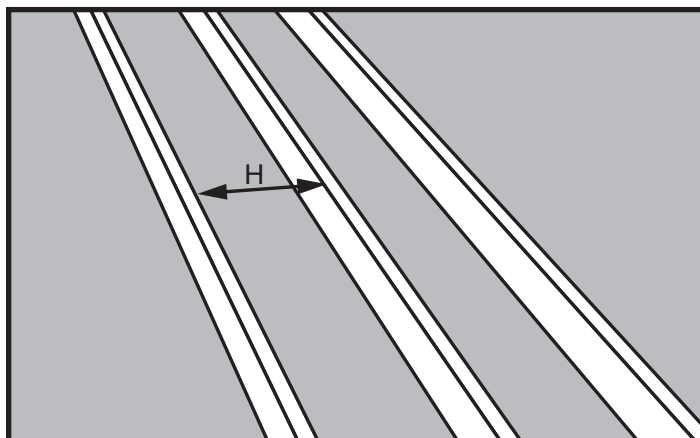

Figure 11
- STEP 1.** Measure the header length “H” between the joists (See Figure 11).